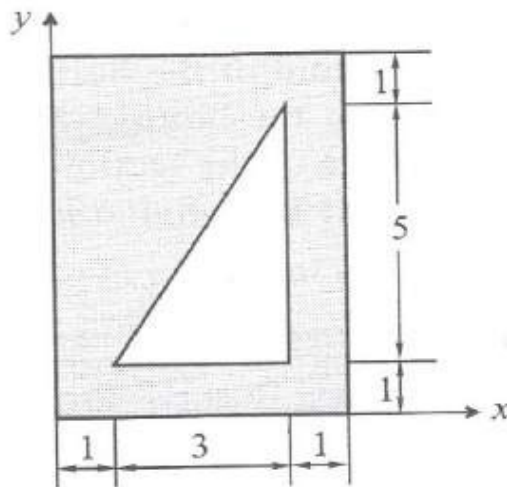

Figure 3
d. Find the Moment of Inertia about the centroidal axis in the given Figure 3.